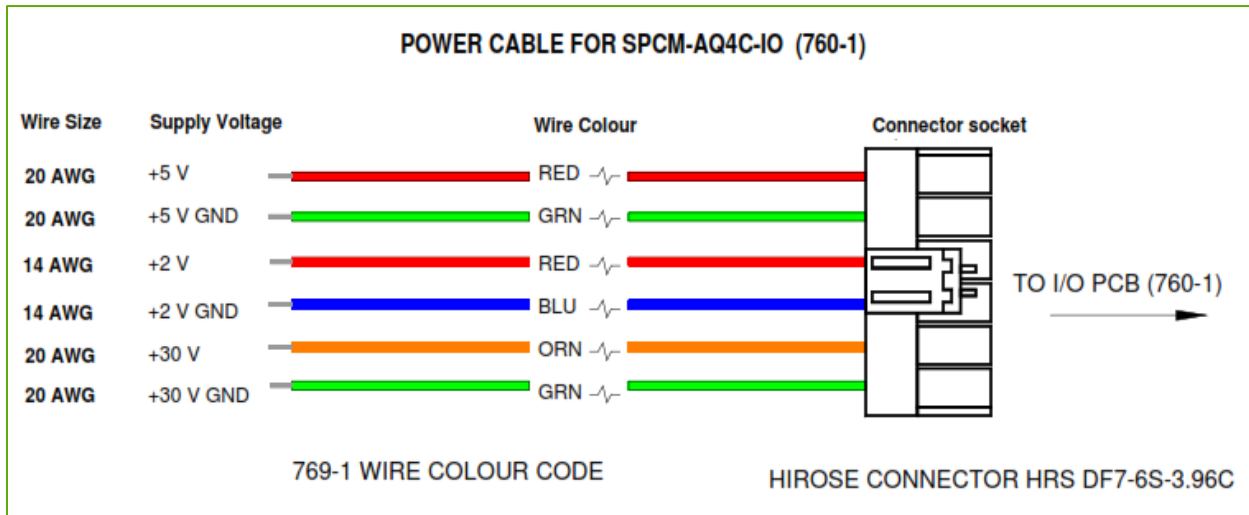

Figure 10.1 Power Connector Wiring
10.1. Refer to figure 10.1 for wiring connections.